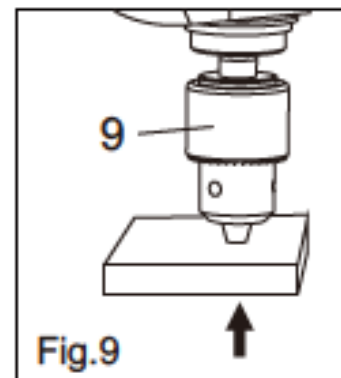

Fig.9
This machine is supplied with a Morse taper stub shaft fitted into the spindle. To fit the chuck(9), clean the protective film from the chuck(9) internal taper and the stub shaft external taper with white spirit. Place the chuck(9) onto the exposed stub shaft. Place a piece of wood onto the drill table. Using the feed handles(3) lower the chuck(9) onto the wood. Gently apply pressure to engage the taper and then let the spindle raise to its upper position(Fig.9).